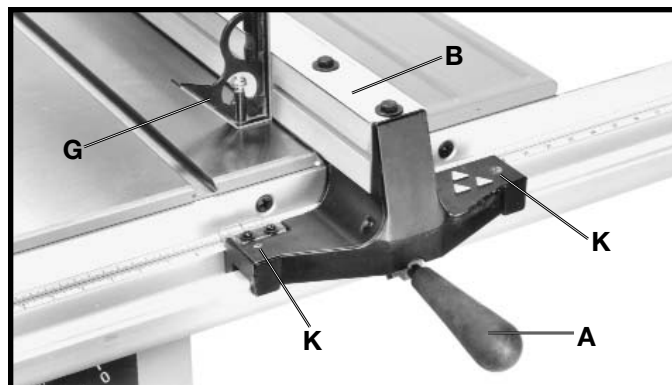

Fig. 63
4. Using a square (G) Fig. 63, check to see if the rip fence (B) is perpendicular to the saw table and that the rip fence body is level with the saw table. If an adjustment is necessary, tighten or loosen either of two screws (K), until the fence is perpendicular and level with the saw table.